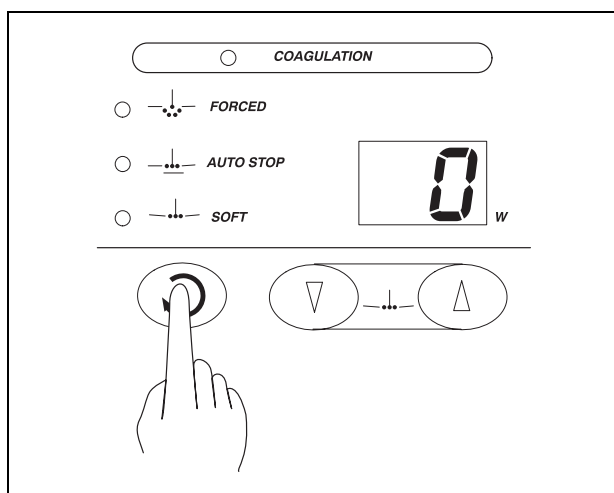

Figure 4.10
1. Confirm that each time the coagulation mode selector is pressed, the coagulation mode indicators are changed, and the corresponding indicators the "SOFT", "AUTO STOP" or "FORCED" coagulation mode light (see Figure 4.10).